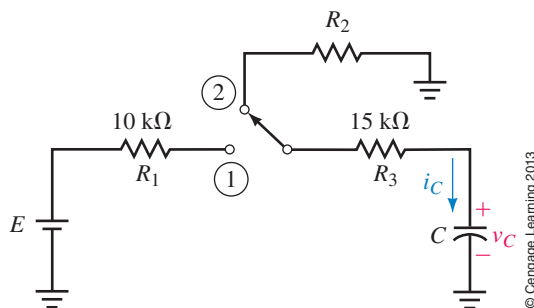
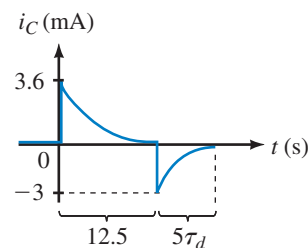

FIGURE 11-54
FIGURE 11-58
32. Consider again Figure 11-54. Suppose $E = 80$ V, $R_2 = 25$ kΩ, and $C = 0.5$ μF:
33. For the circuit of Figure 11-54, the capacitor is initially uncharged. The switch is first moved to charge, then to discharge, yielding the current shown in Figure 11-58. The capacitor fully charges in 12.5 s. Determine E , R_2 , and C .